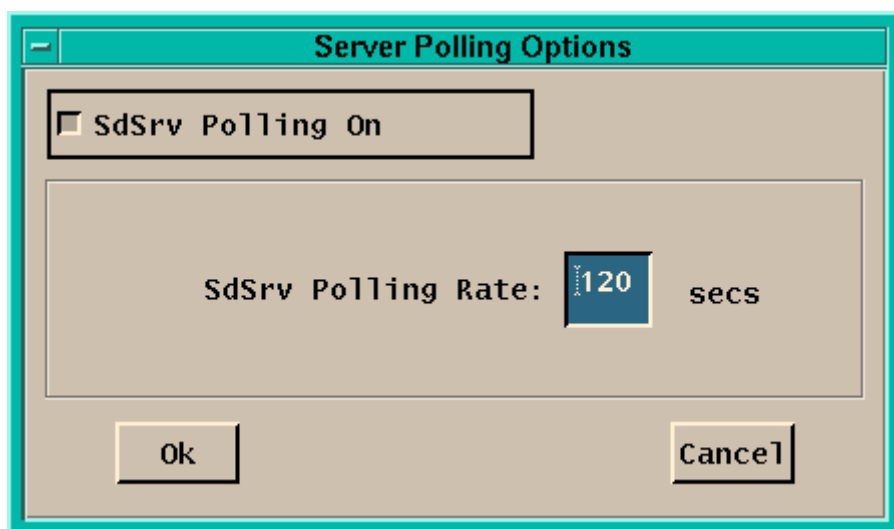

Figure 26.27.4-1. Science Data Server - Server Polling Options
- **O**ptions - This menu includes the *System Settings* item that opens the Server Polling Options window. Polling of the data server can be switched On/Off and the SdSrv Polling rate can be adjusted through this window shown in Figure 26.27.4-1